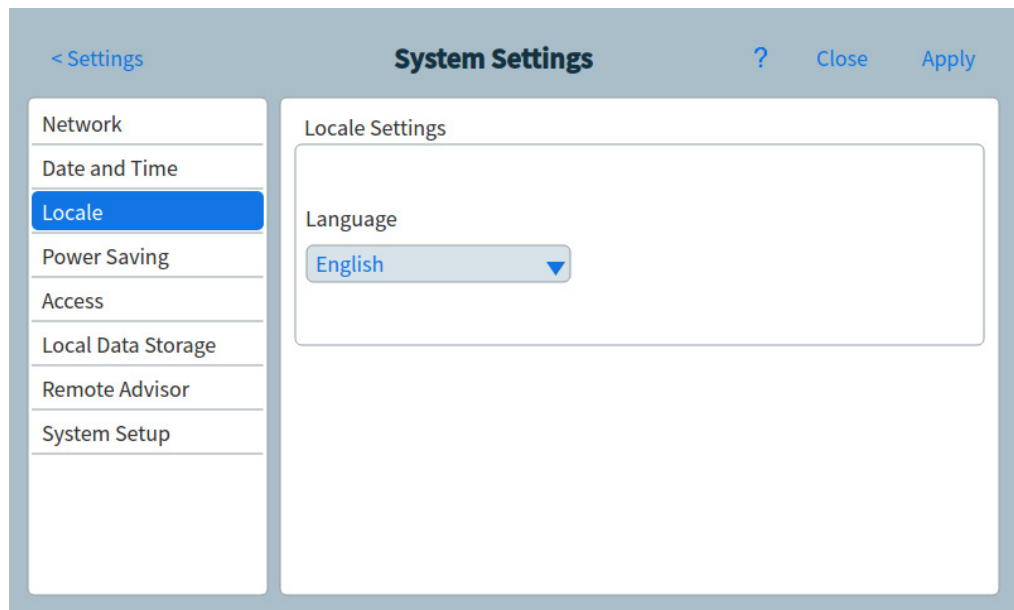

Figure 46 Locale Settings page
- 1 From the System Settings page, press the **Locale** page selection button. The Locale Settings page appears. See Figure 46.